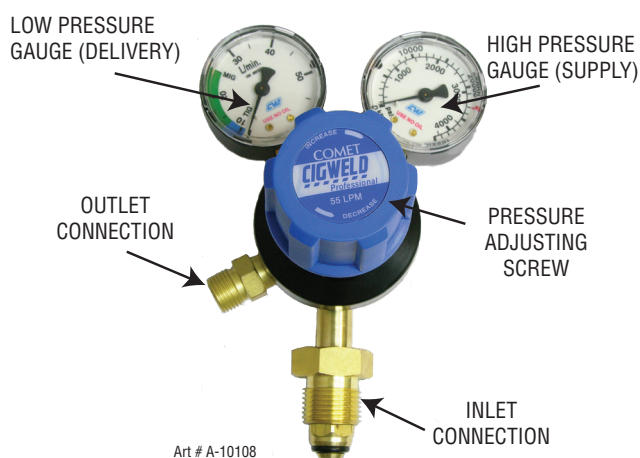

Figure 3-19: Adjusting Flow Rate
3. Adjust regulator pressure adjusting screw to the required flow rate, indicated on gauge dial. (Refer back to Figure 3-19)